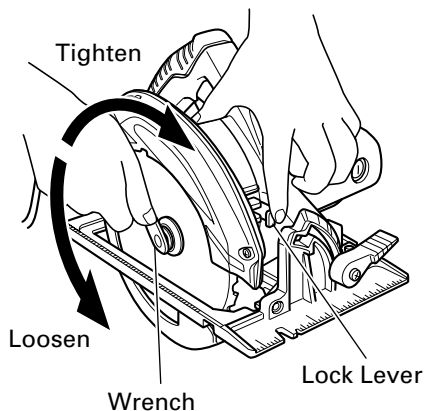
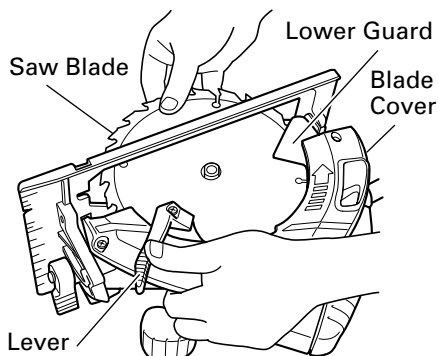

Fig. 17
Fig. 18
- (1) Set the cutting volume at maximum, and place the Circular Saw as shown in Fig. 17.
- (2) Depress the lock lever, lock the spindle, and remove the hexagonal-flange bolt and washer(B) with the wrench.
- (3) While holding the lever to keep the lower guard fully retracted into the blade cover, remove the saw blade. (Fig. 18)